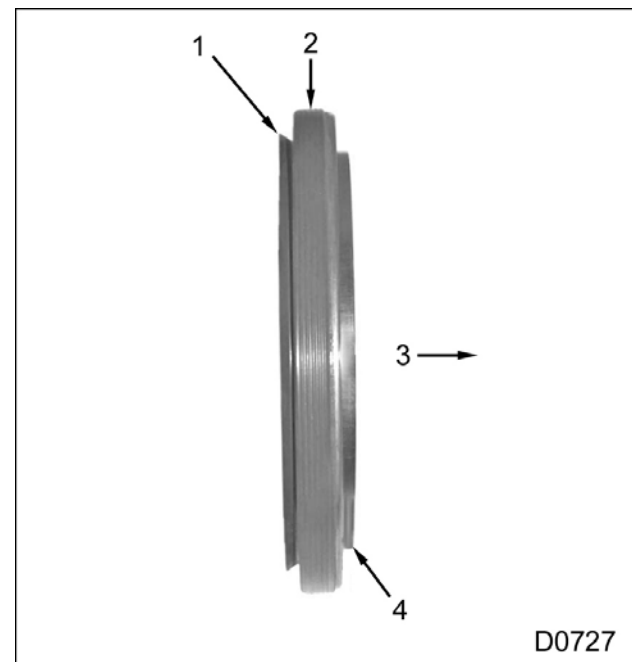

Figure 581 Orientation of rear main oil seal and wear sleeve
2. Position seal (Figure 581) and slide onto Rear/Wear Sleeve Installer.